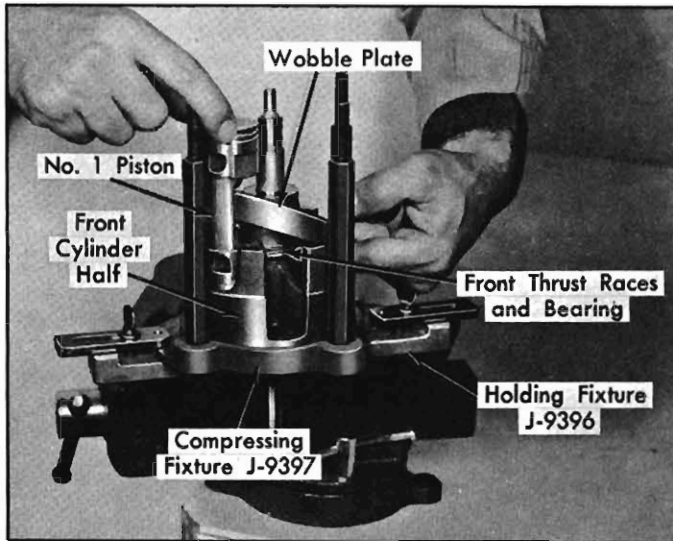

Fig. 11-50—Installing Piston Over Wobble Plate
8. Rotate the shaft and wobble plate until the high point of the wobble plate is directly over the cylinder bore previously designated as No. 1. Lift up slightly on the shaft and wobble plate assembly, insert the front (notched) end of the No. 1 piston into the cylinder bore, and at the same time, place the front ball and seat and the rear ball only over the wobble plate (fig. 11-50). Hold front thrust bearing pack tight against wobble plate hub while lifting shaft.